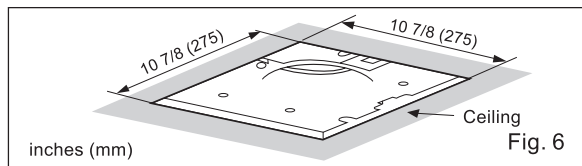

Fig. 6
8. Finish ceiling work. Ceiling hole should be aligned with the edge of the flange. (Fig. 6)